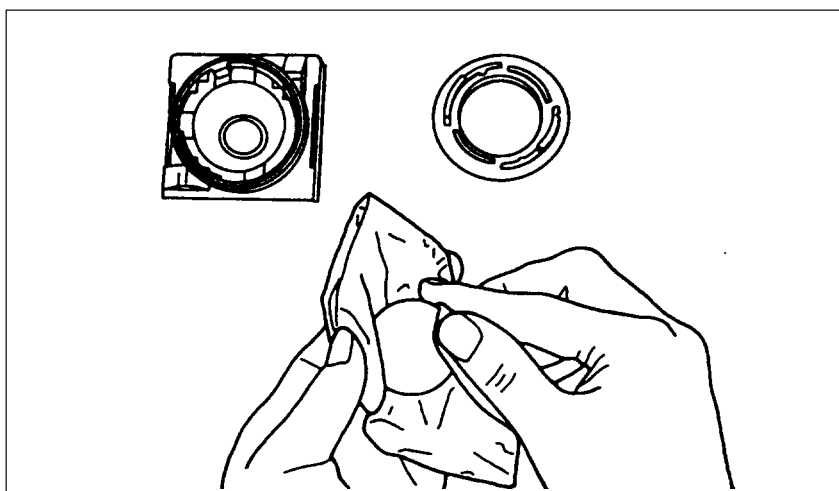

Figure 2-14 Cleaning the Trackball
4. Wash the trackball with tap water to which a mild cleansing agent has been added (Figure 2-14).